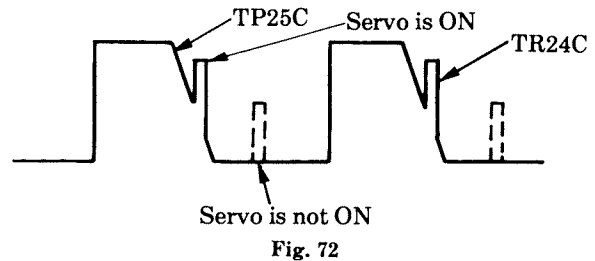

Fig. 72
3. Set R1120 to center portion, and make sure that the servo is ON as shown in Fig. 72.
13. Make sure that servo is ON as shown in Fig. 72.